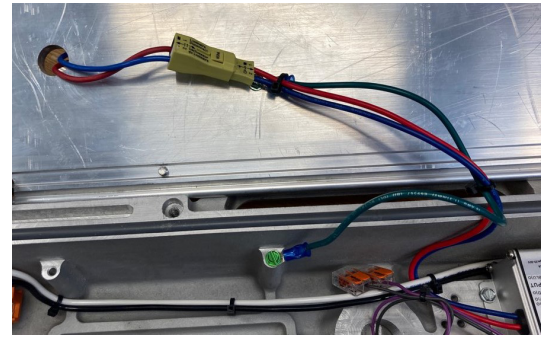

Figure 3. PLLA2 LED light engine wire routing
5. Locate and remove wire tie used to secure LED light engine input wiring (see Figure 3). Use care in removing wire tie so damage is not done to any wires
12. Route LED light engine and LED driver output wiring and install tie wrap as directed in Figure 3. Trim excess tie wrap material.